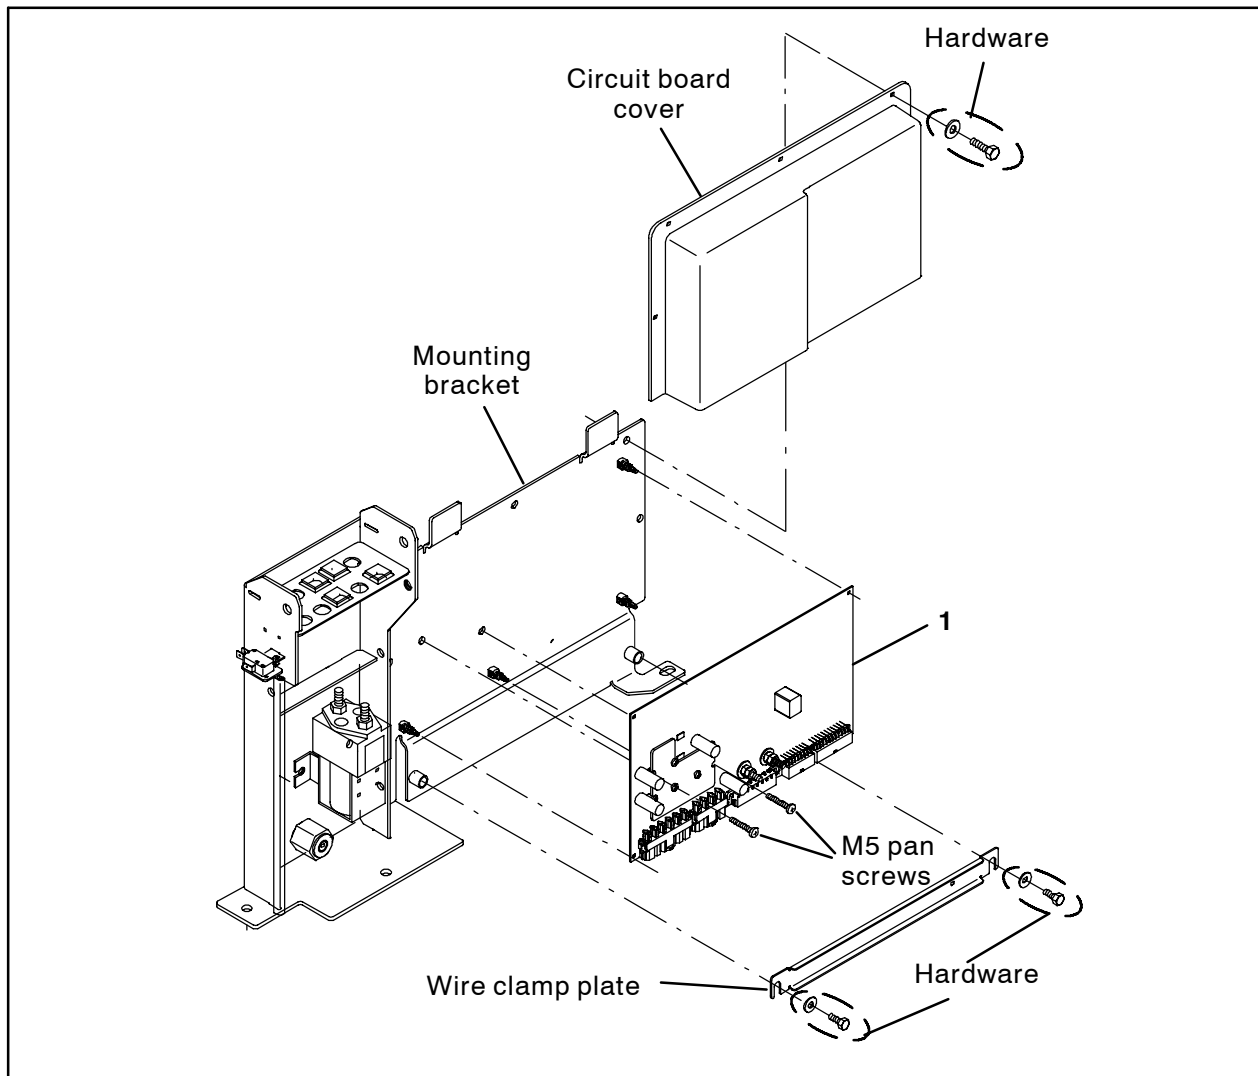

FIG. 4
4. Remove the circuit board cover from the circuit board assembly. Set the circuit board cover and hardware aside. Refer to Fig. 4.
6. Remove the wire clamp plate from the machine. Set the wire clamp plate and hardware aside. Refer to Fig. 4.
8. Remove the M5 pan screws securing the circuit board to the machine. Set the M5 pan screws aside. Refer to Fig. 4.
9. Carefully pull the control board from the mounting bracket and disconnect the remaining main wire harness connectors from the along the bottom of the control board. Discard the control board. Refer to Fig. 4.
11. Connect the main wire harness connectors to the connections along the bottom of the new control board (1). Refer to Fig. 4.
15. Connect the main wire harness connectors to the connections along the side of the control board (1). Refer to Fig. 4.
16. Reinstall the wire clamp plate onto the machine. Refer to Fig. 4.
17. Reinstall the circuit board cover onto the machine. Refer to Fig. 4.